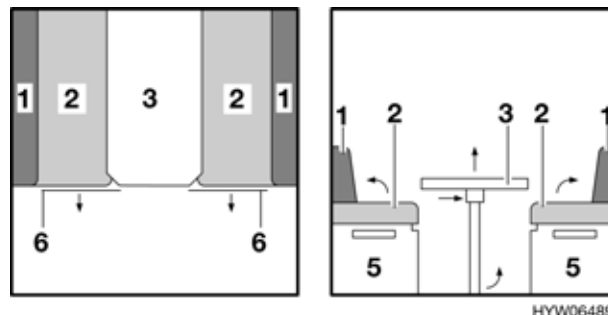

Fig. 70 Prior to conversion
- Slightly lift the front of the table-top (Fig. 70,3).
- Lay the two seat cushions in position (Fig. 70,2).
- Lay the right back cushion (Fig. 70,1) aside.
- ▷ Depending on the model an enclosed additional cushion must be used instead of the back cushion (Fig. 70,1).